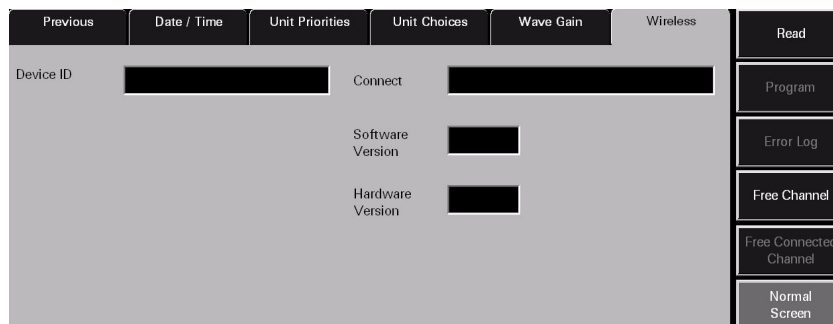

FIGURE 10-4 Wireless Tab
5. Select the **More** tab, then select the **Wireless** tab. The **Wireless** tab is displayed (shown in FIGURE 10-4).